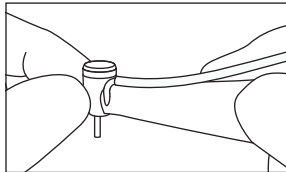

Fig. 10
- 4) After the handpiece rotation has completely stopped, touch the handpiece head to confirm the head is NOT heating abnormally (Fig. 10).